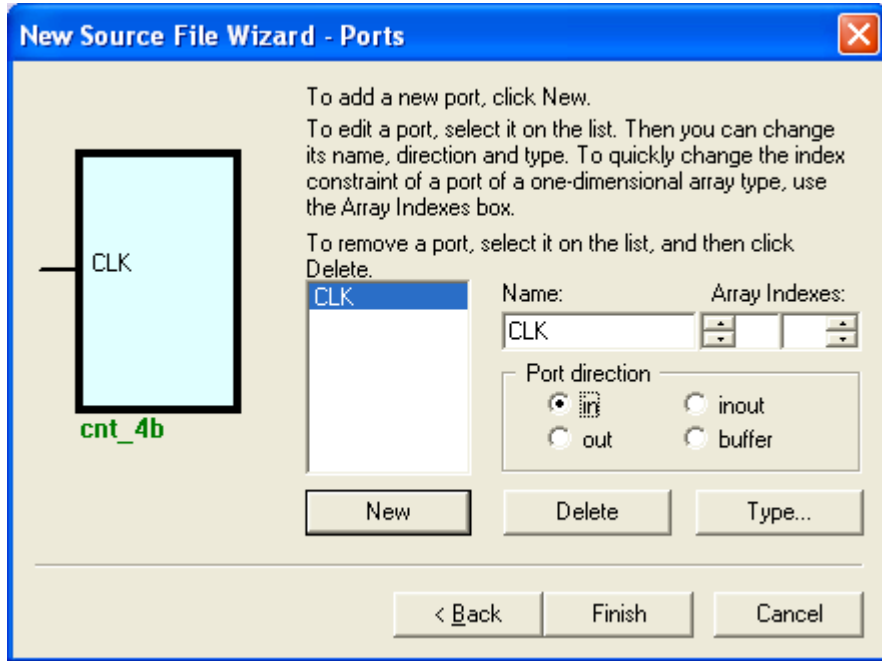

Figure 4: Ports
3. In the next window, you will add ports to your source file. Click on “New” and type “CLK” under the “Name” tab. Make sure the Port direction is “in” as shown in Figure 4.